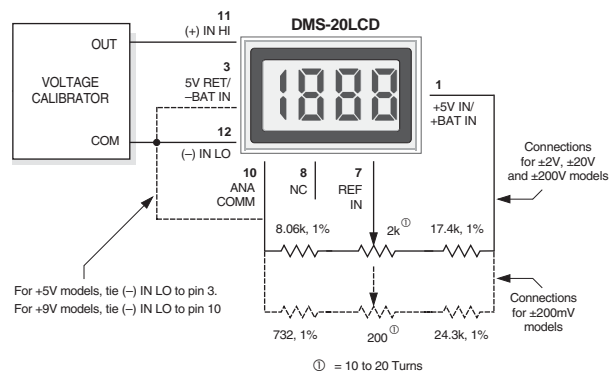

Figure 9. External Gain Adjustment
- 6. Gain Adjust:** There is a gain-adjust potentiometer on the back of each meter. It has approximately ± 50 counts ($\pm 2.5\%$) range of adjustment. Since these devices essentially have no zero/offset errors, a gain adjustment is effectively an overall accuracy adjustment. Though they may be performed at any point (except zero), accuracy adjustments are most effective when performed with higher level input signals. The circuit shown in Figure 9 provides $\pm 10\%$ range of adjustment.
7. **External Gain Adjustment:** Connect REFERENCE OUT (pin 8) to REFERENCE IN (pin 7) for normal, factory calibrated, operation. Use the circuit shown in Figure 9 for applications needing external gain adjustment. Calibration is performed with a precise, near-full-scale, input voltage.